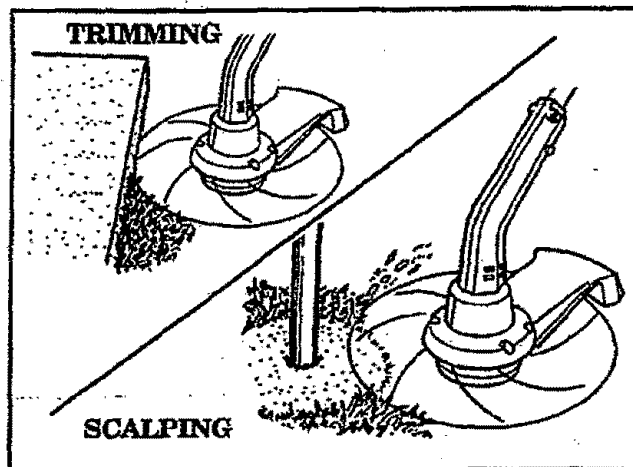

Figure 7
1. **TRIMMING** - Figure 7. Hold the bottom of the trimmer head about 3 inches above the ground and at an angle. Allow only the tip of the line to make contact. Do not force the trimmer line into the work area.
2. **SCALPING** - Figure 7. The scalping technique removes unwanted vegetation. Hold the bottom of the trimmer head about 3 inches above the ground and at an angle. Allow the tip of the line to strike the ground around trees, posts, monuments, etc. *This technique increases line wear.*